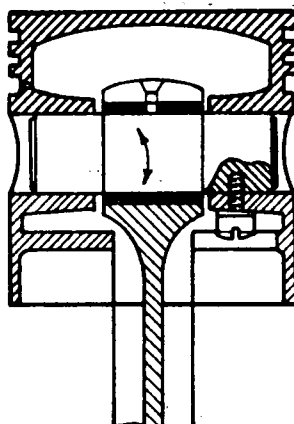

Fig. 6
- fixed in the piston and free in the connecting rod (fig. 6).